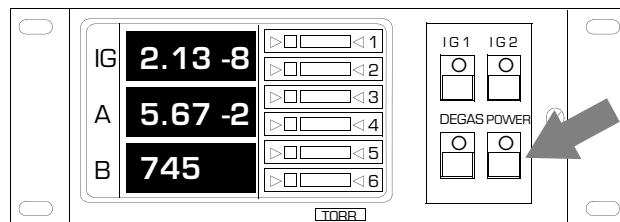

Figure 5-1 Control Unit Front Panel Showing Power ON Button
1. Press the Power switch on the Control Unit to ON (see Figure 5-1).